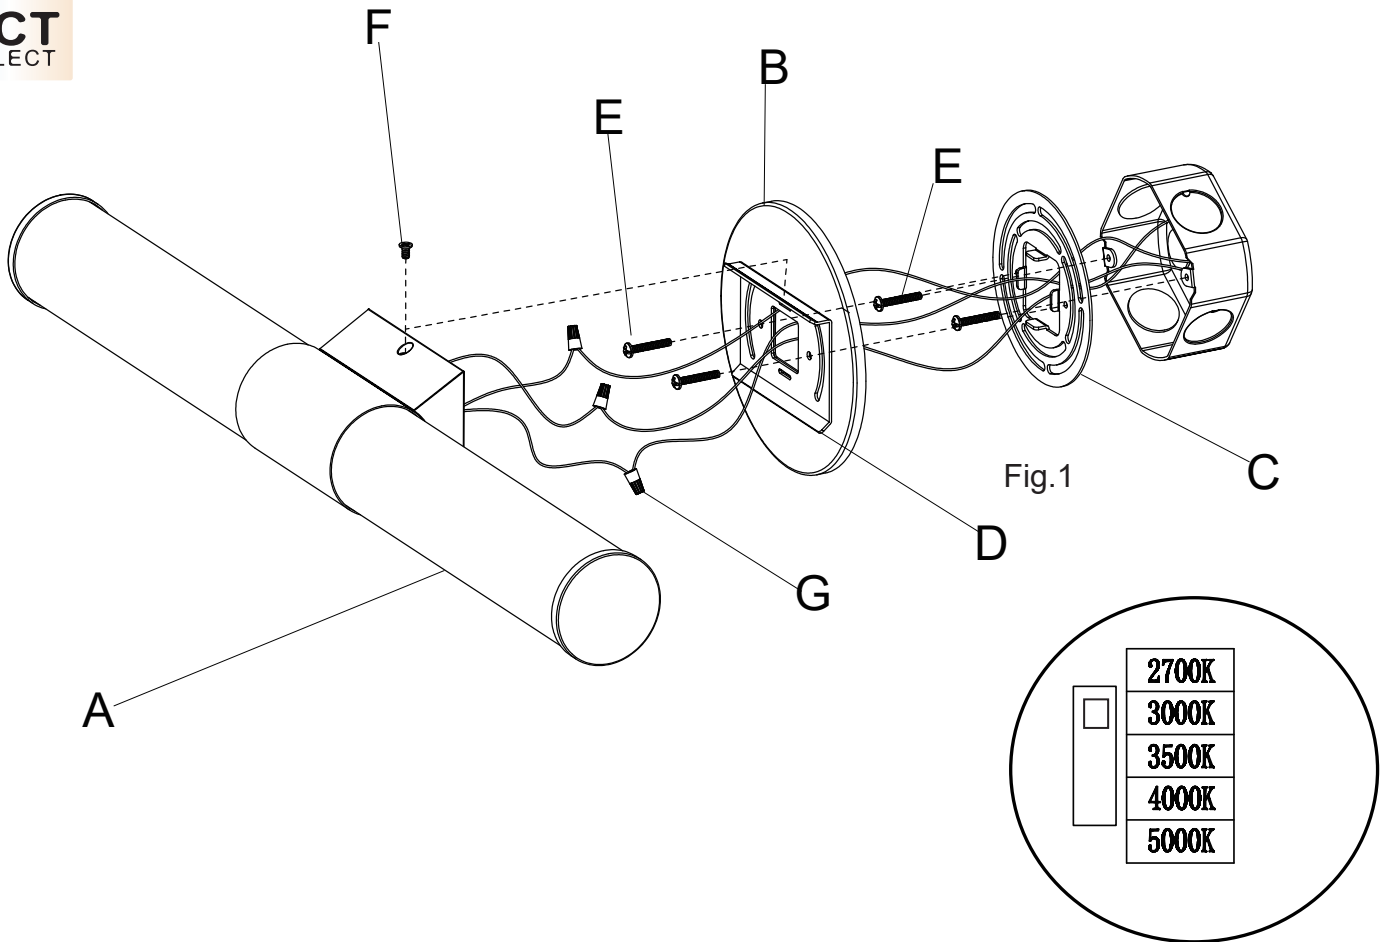

Fig.2
4. Select the desired Color Temperature by setting the sliding switch to the target CCT(See Fig.2)